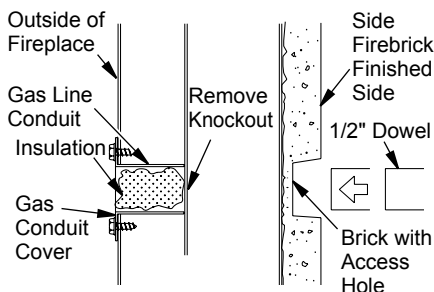

Figure 21 - Gas Line Access
1. Remove knockout indentation on refractory or firebrick wall located above refractory hearth floor. Knockout indentation must be firmly tapped with any solid object such as a 1/2" dowel until it is released. Remove fragmented portions of refractory (see Figure 21).